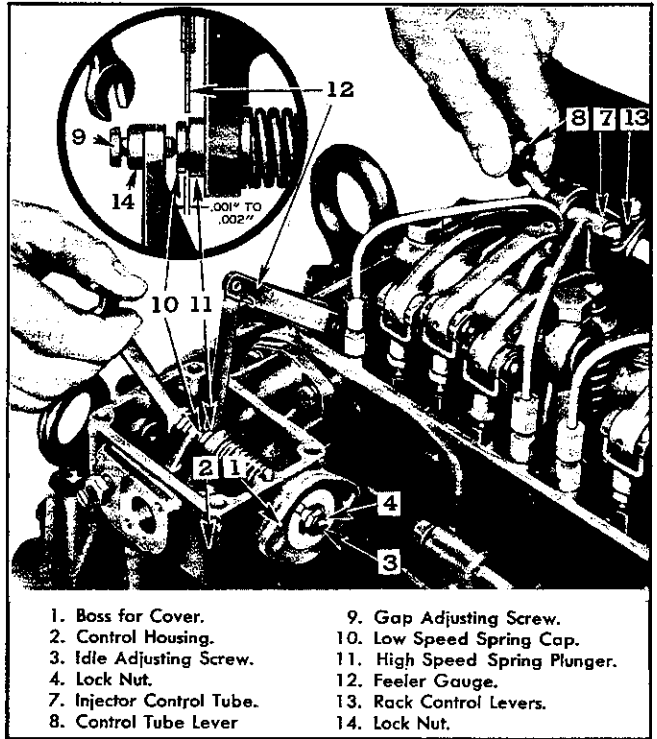

Fig. 23—Governor Gap Setting—Mechanical Governor.
1. Refer to Figs. 23 and 25. Note name and position of numbered parts.
2. Remove the spring cover at the rear of the governor control housing and set the idle adjusting screw (3), Fig. 23, so that it projects  $\frac{1}{16}$ " from the locknut (4).
4. Start the engine with the aid of a helper and regulate the speed by hand operation of the injector control tube lever (8) as shown in Fig. 23. As the governor is